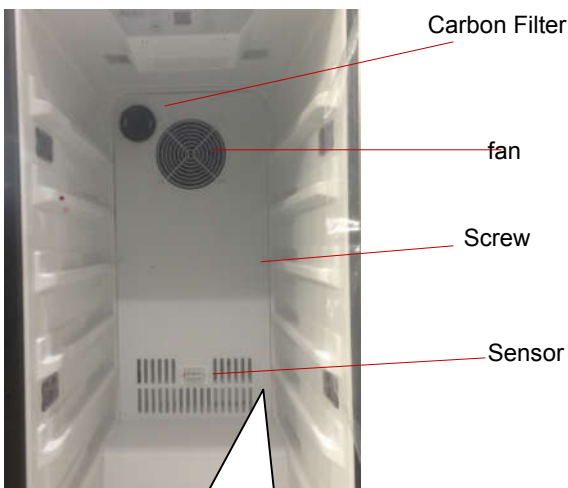

Figure 23
1. Remove the screws on both sides of air duct board.. Pull out the air duct board cover. (figure 23)